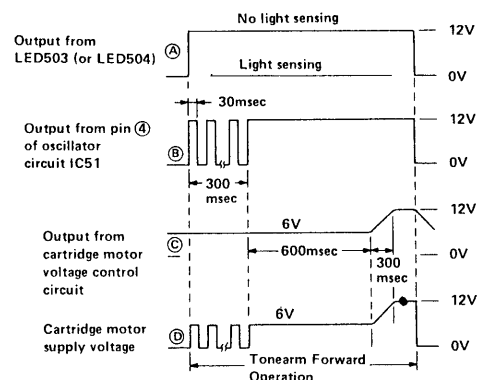

Figure 12-3
The "high" level signal applied to the oscillator circuit goes out of pin ④, which is a pulse shown in Fig. 12-3 (B) to drive Q521, the output of which is reversed in polarity to be fed to the cartridge motor normal/reverse rotation selector circuit.